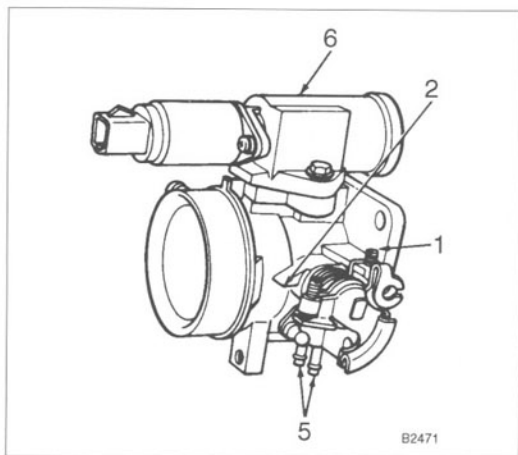

Fig. 5-2. Typical throttle body showing idle speed adjustment screw (1).
- Next, adjust idle speed by turning the throttle stop screw shown in Fig. 5-2 above until tone/light/STO LO is correct.
- With engine OFF, install feeler gauge 0.025" between the throttle plate idle stop-screw and the throttle lever. See Fig. 5-2 above.